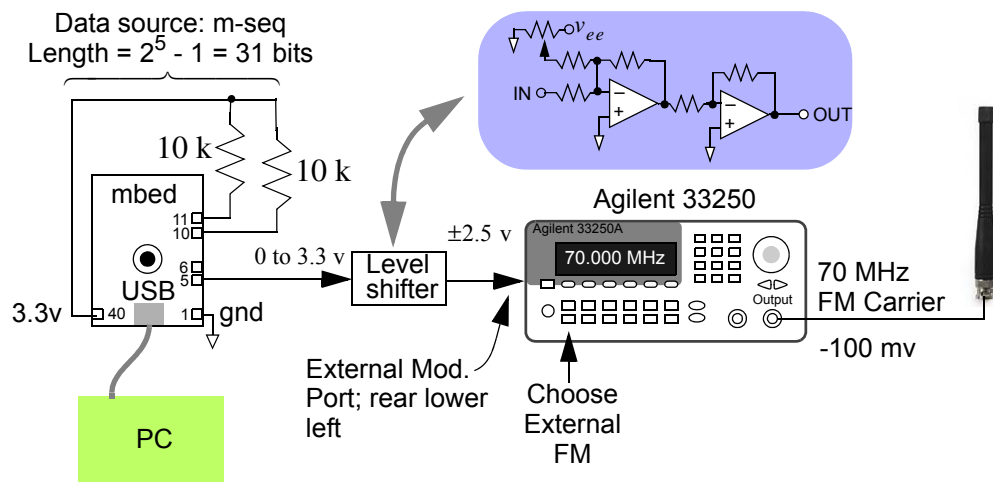

Figure 24: Setting up an FSK transmitter using the mbed, a level shifter, and the Agilent 33250.
1. To experiment with the FSK receiver you will need to first set up a transmitter. The Agilent 33250 generator will again be used. In order to determine if the system is reliable you need to perform *bit error probability* (BEP) testing, also commonly referred to as *bit error rate* (BER) testing. To obtain a known source of data bits you will drive the external modulation port of the Agilent 33250 with a level shifted out from the mbed microcontroller. Recall your experiences with this hardware back in Lab 2. The block diagram of the transmitter is shown in Figure 24.